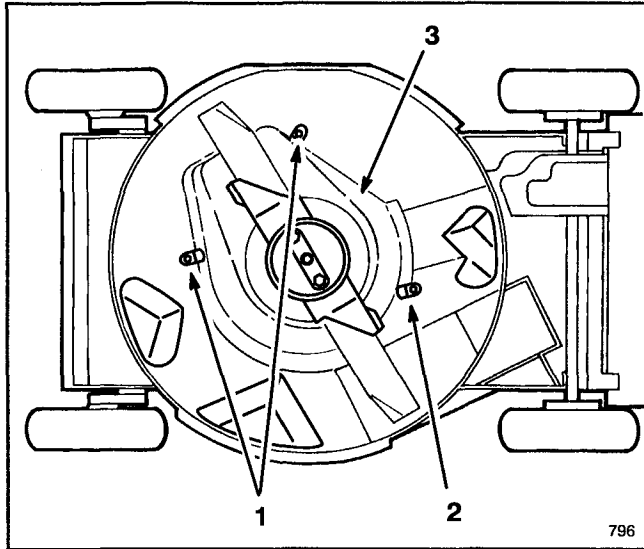

Figure 35
5. Loosen tabs securing BBC shield to deck by loosening nuts or bolts on tabs (Fig. 35). Rotate tabs 180° to move them out of the way.